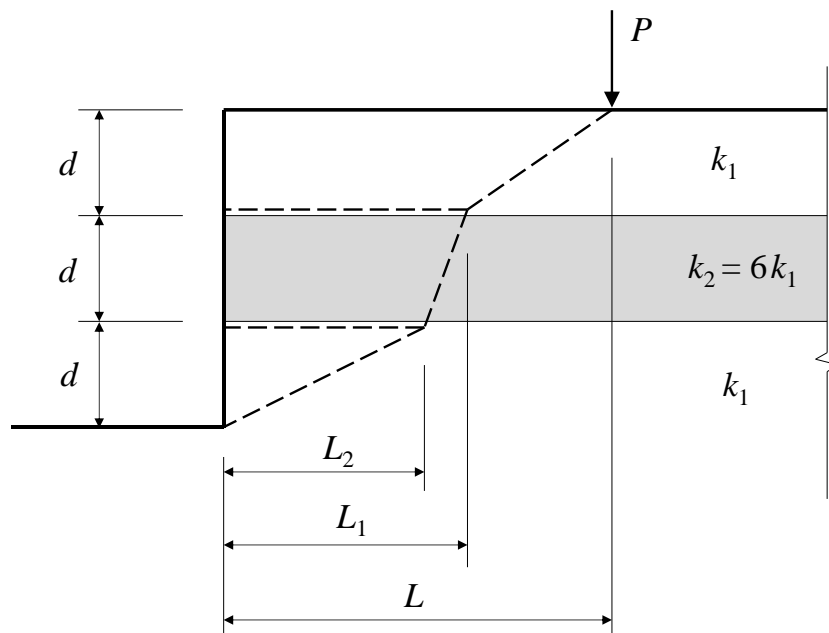

Figure 6
6 A load  $P$  is placed at a distance  $L$  from an excavation with depth  $3d$ , as shown in Fig. 6. The soil has a layered structure. A stronger layer with depth  $d$  and plastic shear strength  $k_2 = 6k_1$  is sandwiched between two layers with plastic shear strength  $k_1$ . The soils are assumed to behave with rigid-plastic properties. The weight of the soil may be neglected. Note that the load  $P$  is a line load in the out-of-plane direction.
- (a) Considering the failure mechanism shown in dashed lines in Fig. 6, draw a displacement diagram of the various blocks of soil comprising the mechanism. [5]